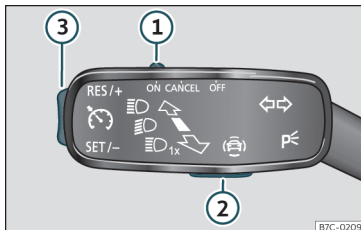

Fig. 44 Left of the steering column: CCS switch and controls.
- Switching on the CCS: Move switch »» Fig. 44 ① to **ON**. The system is on. If no speed has been programmed, the system will not control it.
- Activate the CCS: Press button »» Fig. 44 ② in the **SET/-** area. The current speed is memorised and controlled.
- Temporarily switching off the CCS: Move switch »» Fig. 44 ① to **CANCEL** or push the brake. The cruise control system is switched off temporarily.
- Reactivating the CCS: Press button »» Fig. 44 ② in **RES/+**. The memorised speed is saved and controlled again.
- Increasing stored speed during CCS regulation: press button ② in **RES/+**. The vehicle accelerates until the new stored speed.
- Reducing stored speed during CCS regulation: press button ② in **SET/-** to lower the speed by 1 km/h (1 mph). Speed is reduced until reaching the new stored speed.
- Switching off the CCS: Move switch »» Fig. 44 ① to **OFF**. The system is disconnected and the memorised speed is deleted.